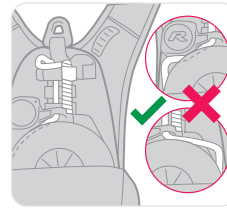

Figure 6
- Inspect descent line for any 'slack' between the drum and rack (Figure 6). If the line is slack the Latchways PRD descender device shall be removed from service and advise sought from MSA or authorised agent.